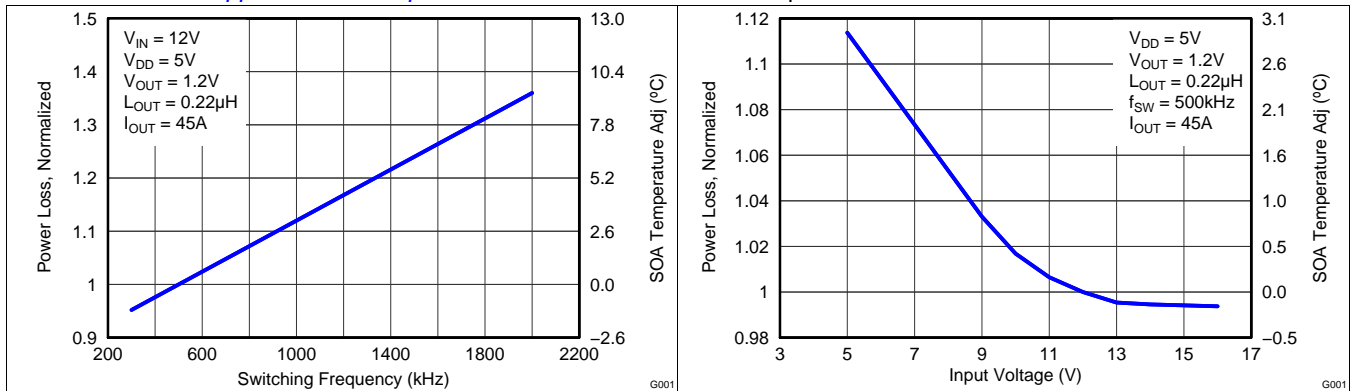

Figure 6. Normalized Power Loss vs Frequency
- Normalized Power Loss for switching frequency \approx 1.07 (Figure 6)
- SOA adjustment for switching frequency \approx 1.9°C (Figure 6)